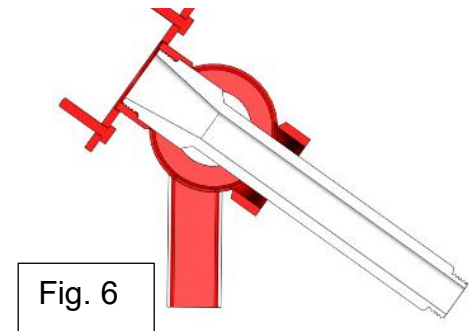

Fig. 6
4. Turn the power switch to the on position. For solid state digital models (D) and computer models (C) models, the temperature will automatically set for 195-200°F. The water will not achieve an active boil.
6. Unthread the Boil Out By-Pass™ drain plug and thread in the Boil Out By-Pass™ extension tube as shown in Fig. 5. The larger thread end screws into the back of the drain manifold as shown in the cutaway side view in Fig. 6.